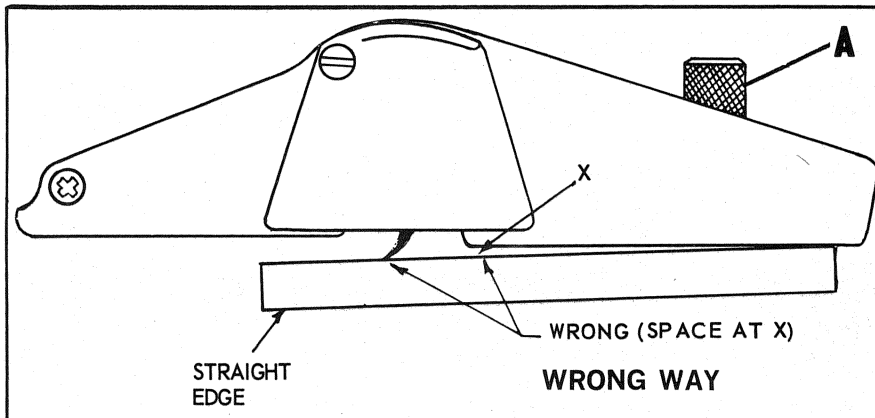

Fig. 4
5. If, when the cutter is turned, the tips of the cutting edges raise the straight edge from the surface of the rear section of the base, as shown in Fig. 4, turn the cutter adjustment knob (A) Fig. 4, slightly counterclockwise (this moves the cutter away from the straight edge).